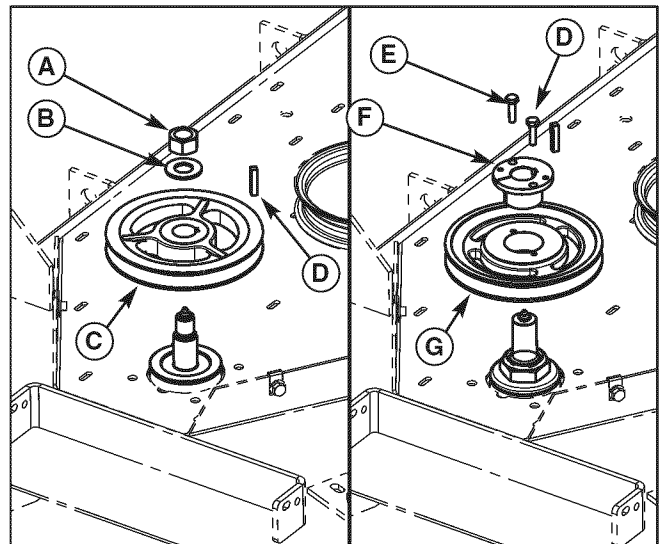

Figure 22. Remove Spindle Pulley
1. Remove the 3/4-16 hex nut & 3/4" spring washer (A & B, Figure 22) securing the spindle pulley (C) to the spindle shaft. Use a 1" wrench on the flats of the blade end of the spindle shaft to prevent the shaft from spinning. Save the 1/4" key (D).
1. Install the double spindle pulley (C, Figure 22) and 1/4" key (D) onto the spindle shaft.
2. Install the 3/4" spring washer (B) with the cone facing up (see insert, Figure 22). Install the 3/4-16 hex nut (A) and torque to 85-90 ft. lbs (115-122 Nm). Use a 1" wrench on the flats of the blade end of the spindle shaft to prevent the shaft from spinning.